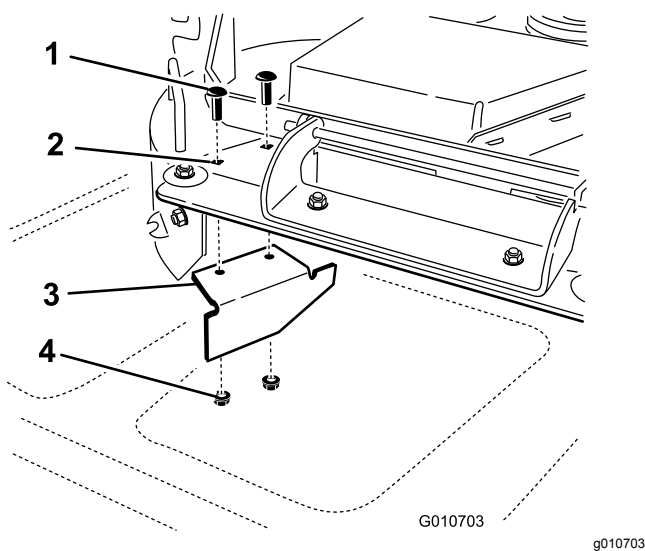

Figure 36
14. Locate the cut off baffle in the loose parts bag. Remove the fasteners at the rear holes of the discharge plate. Install the baffle at the side discharge opening on the mower deck (Figure 36).